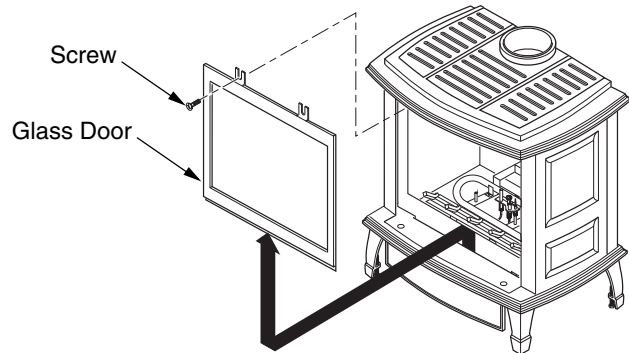

Figure 41 - Removing Glass Door from Burner System
2. Remove the screws from the 2 tabs at the top of the glass door while holding door securely keeping it from falling forward (see Figure 41).
3. Grasp door by both sides and ease it upward off of the lower bracket (see Figure 41).